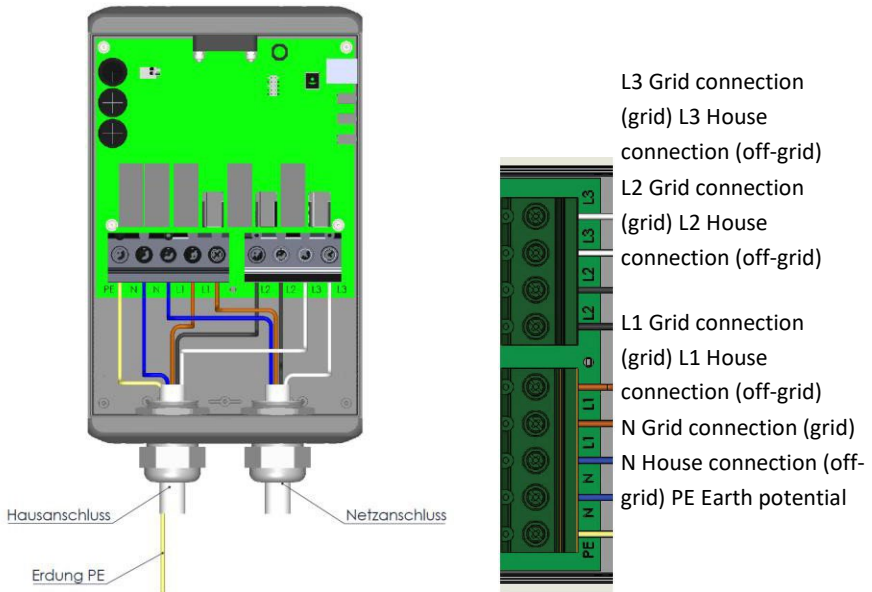

Fig. 9: Grid connection with cable gland and assignment
7. Wire the component on the cable clamps with [X S_2.5] (see Fig. 9):